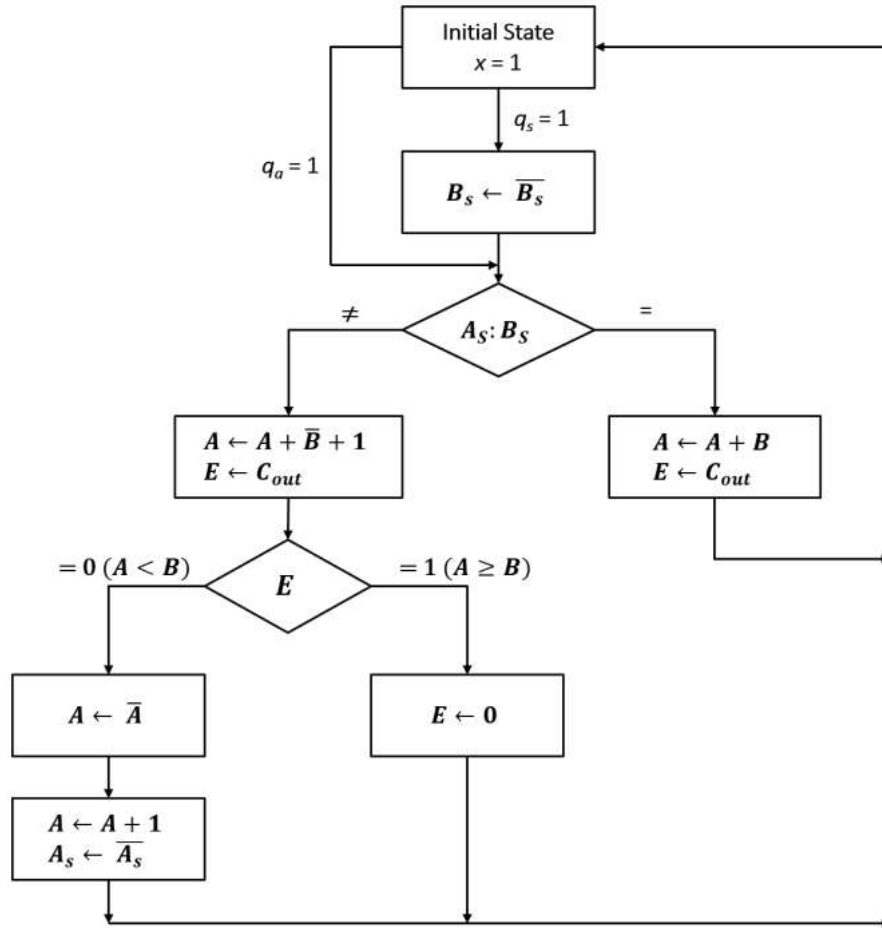

Figure 3: Flowchart for Addition-Subtraction (Question 4)
4. We have the algorithm for the addition-subtraction problem of signed numbers in **Figure 3**. The list of control signals (**Table 2**) to be generated and the required ALU (**Table 1**) operation signals are also given here. Determine the functions of each control signal. Mention the actions of each state. [You do not need to draw the flowchart or state diagram.] [4]